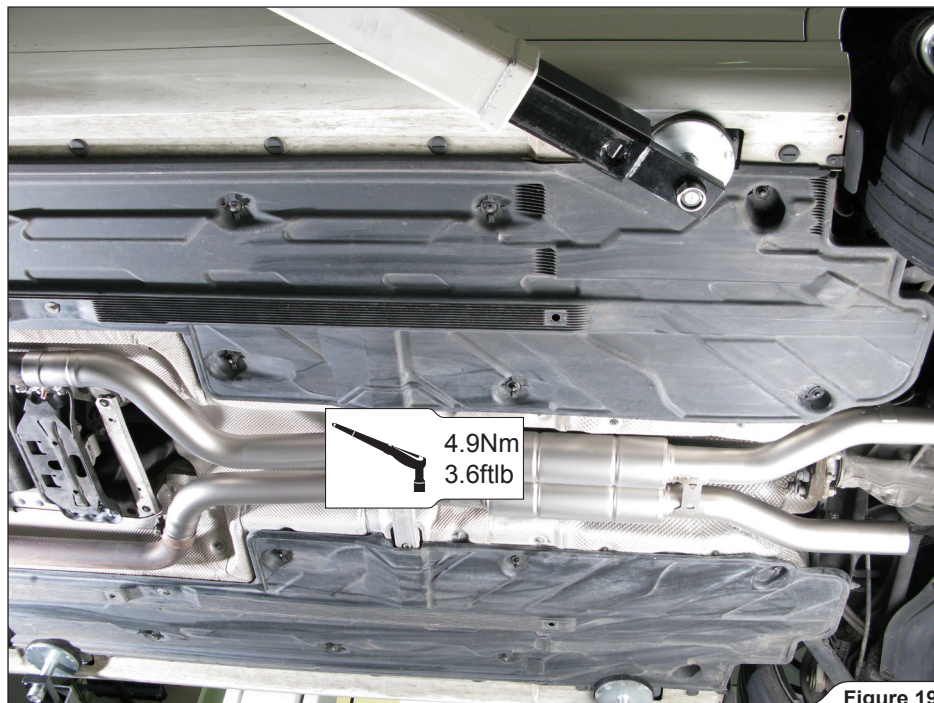

Figure 19
6. **For Evolution only:** reinstall the chassis and engine panels (**Figure 19, 20**).